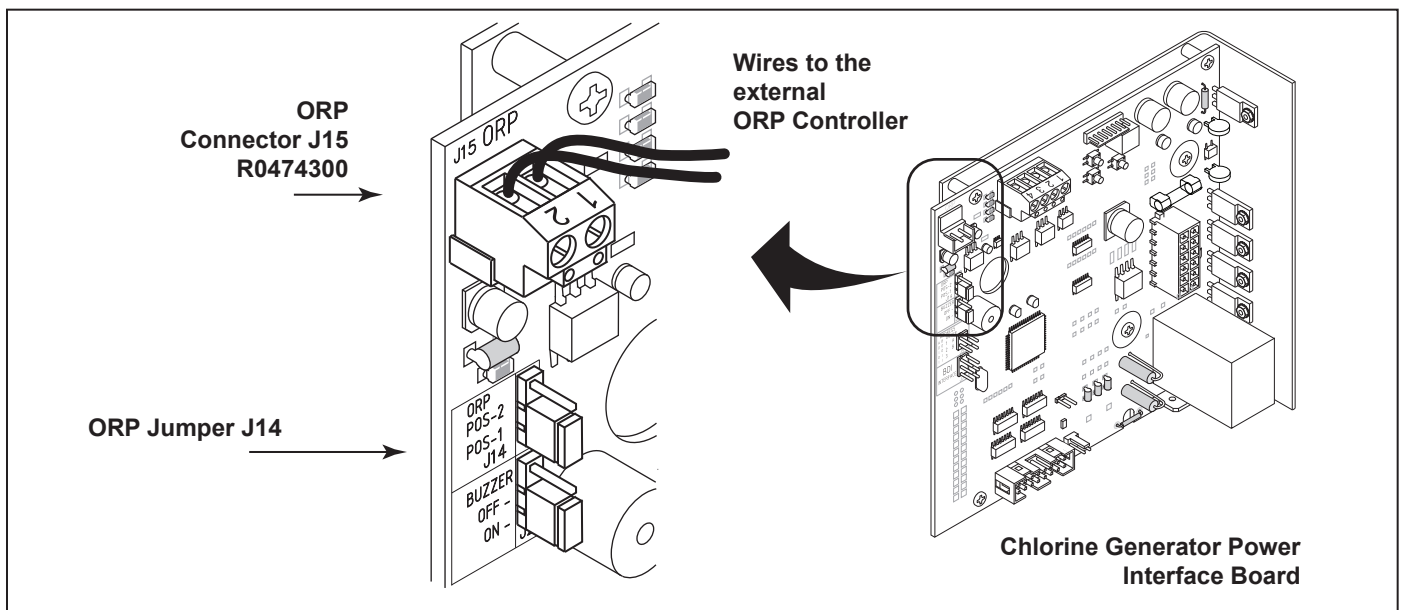

Figure 14. Movable ORP Jumper J14
An external device such as an ORP (Oxidation Reduction Potential) controller supplying 24 Volts AC can be used to control the output of the chlorine generator. The chlorine generator power interface board can be set up in the field to operate in two (2) different modes. The mode of operation is determined by the position of a movable jumper J14. See Figure 14 for location.